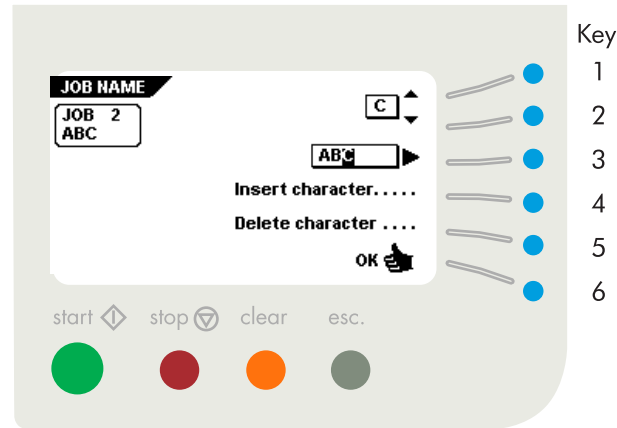

Fig. 48
- select the required feeder (key 2 or 3).
- set the double feed control on or off (key 4).
- confirm the settings by pressing "OK" (key 6) which will get you back to the "job settings" menu.
After pressing key 5 in the "job settings" menu the display shows the screen as shown in fig. 48. The following choices are available:
- change the selected character (key 1 or 2).
- select the character position (key 3).
- insert the selected character (key 4).
- delete the selected character (key 5).